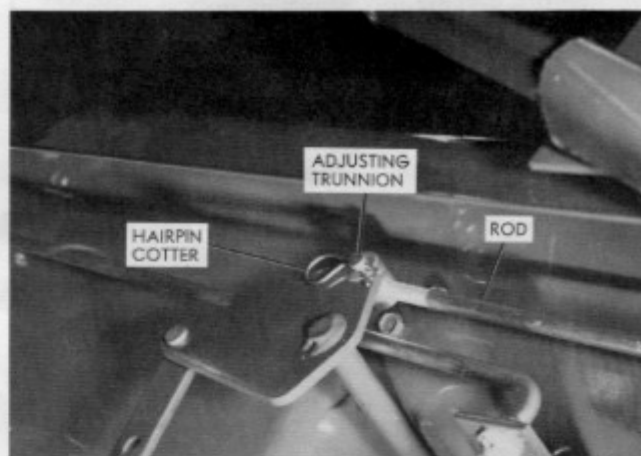

FIG. 19. Mower Level Adjustment
### MOWER ADJUSTMENTS (Figure 19)
2. Remove the hairpin cotter from the adjusting trunnion (Fig. 19). Move the trunnion back on the rod to lift the front of the mower, or forward on the rod to lower it. Adjust the trunnion as required so the mower blades are slightly lower at the front than at the rear.